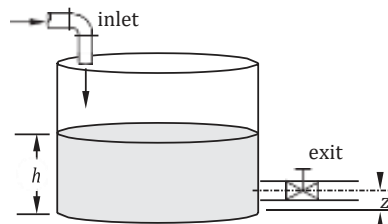

FIGURE P2.48.
48. A 42 mm ID pipe is used to drain a tank, as shown in Figure P2.48. Simultaneously, a 52 mm ID inlet line fills the tank. The velocity in the inlet line is 1.5 m/s. Determine the equilibrium height h of the liquid in the tank if it is octane. How does the height change if the liquid is ethyl alcohol? Assume in both cases that frictional effects are negligible, and that z is 40 mm.